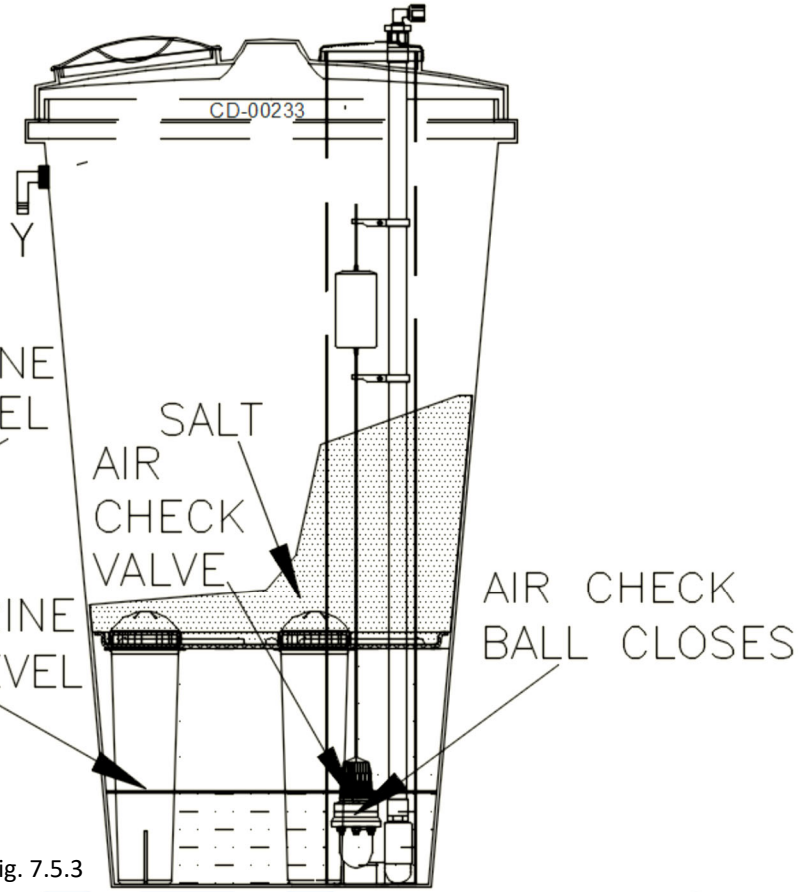

Fig. 7.5.3
- When the flow of brine is stopped by the air check (see Fig. 7.5.3), the brine draw cycle ends and the slow rinse cycle begins. The control valve piston does not move. There is now a low flow rate that will slowly push the brine through the media, and continue replenish the resin bed.